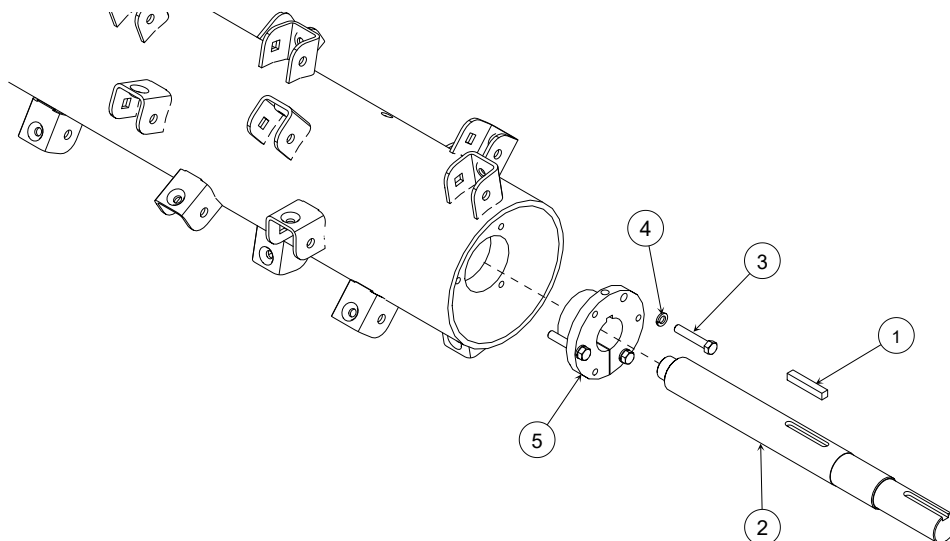

Figure 43. Stub Shaft Assembly
2. Remove three 1/2 x 2-1/2 hex bolts in taper lock hub and re-install bolts in three threaded holes (see Figure 43 and parts on page 60 - 61).